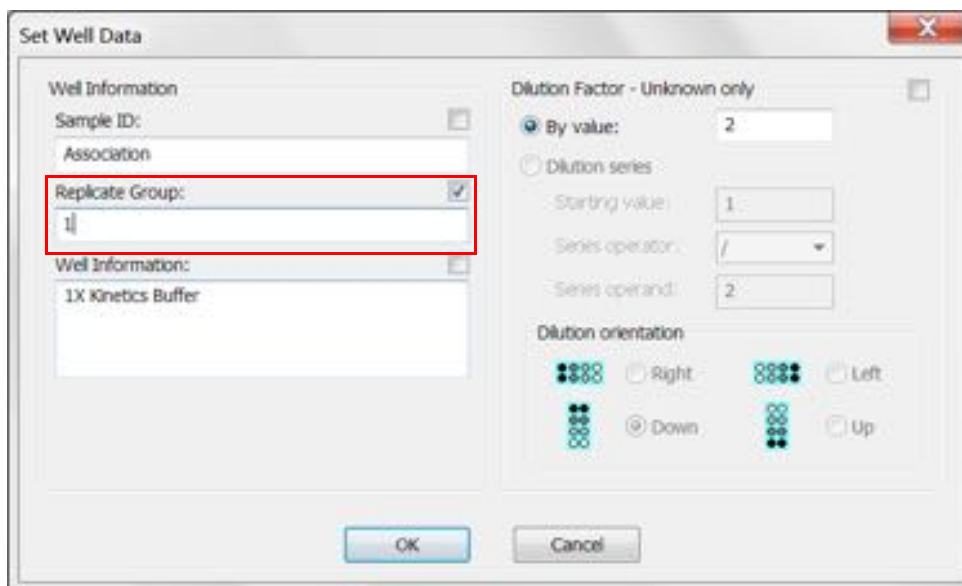

Figure 9-13: Add Replicate Group from the Sample Plate Map
2. In the **Set Well Data** dialog box (see Figure 9-13), enter a name in the **Replicate Group** box and click **OK**.